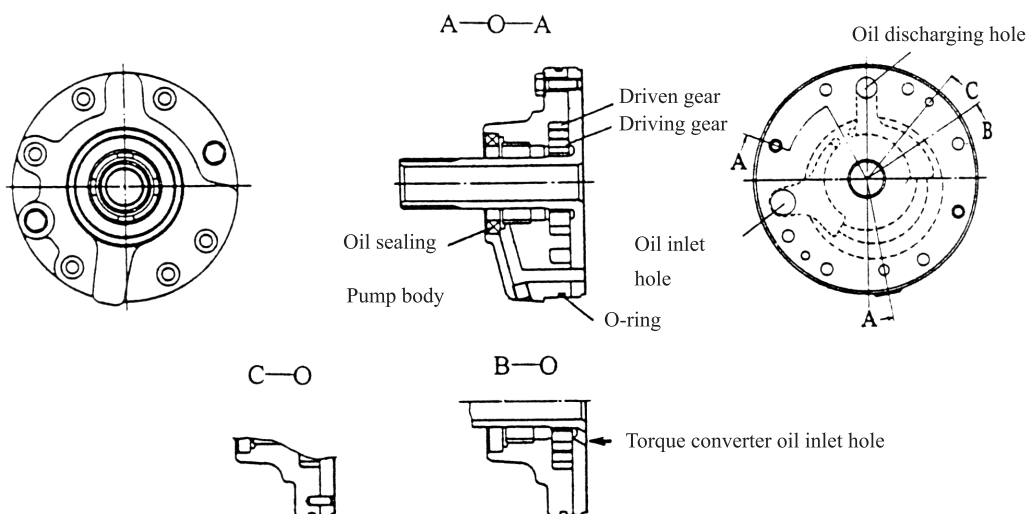

Fig.4-6 Charging pump
4.6 Charging Pump (See Fig.4-6)